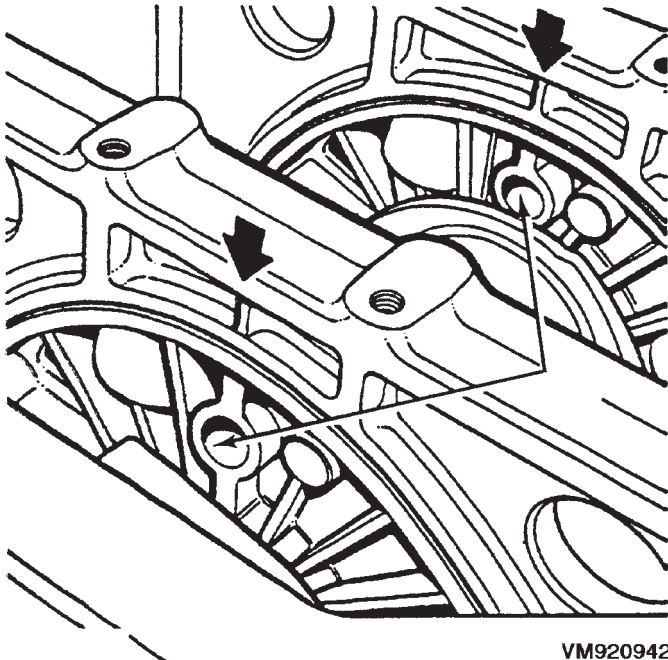

Fig. 58 Main Bearing Carrier Alignment
(7) Slide special tool (VM-1002) over the crankshaft gear and, insert the crankshaft and carrier assembly into the crankcase in the same manner used for removal.
(8) Align the holes in the lower carriers, with the center of the crankcase webs (Fig. 58).